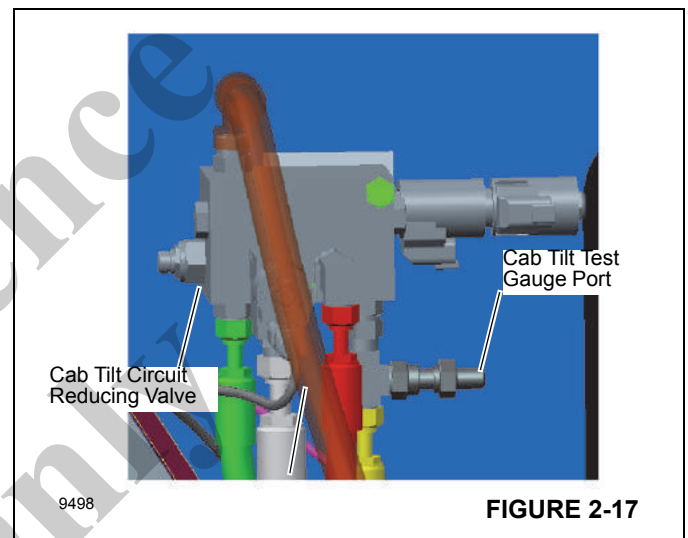

FIGURE 2-17
- 1. The Cab Tilt Cylinder circuit has a single reducing valve in the cab tilt manifold with a setting of 172 bar (2500 psi) as shown in (Figure 2-17).